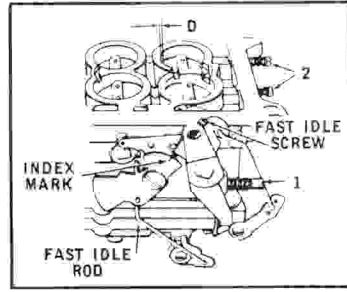

Figure 6
Type I (Fig. 6)
F. Fast Idle – Throttle Valve: (Fig. 6)
K. Idle Mixture and Speed: (Fig. 6)